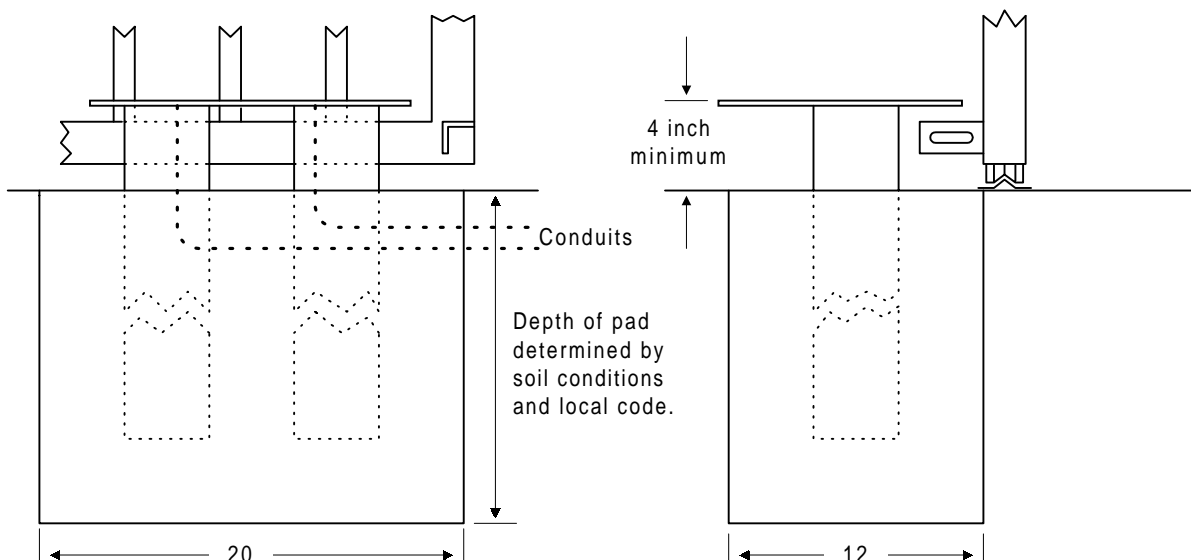

Figure 8
2. After the posts have been welded to the base plate to form the mounting plate assembly, construct a form for the assembly according to the specifications in figure 8.
3. Position the mounting plate assembly into the form. Be sure that the base plate is a minimum of four (4) inches above ground level. Set conduits, reinforcing bars and/or wire mesh if required. The number of conduits is determined by the application requirements. We suggest using a minimum of four (4) conduits. 1-High voltage power lines; 2-Low voltage control lines; 3-Loop lead-in wires (open loop); 4-Loop lead-in wires (reverse loops). **See SECTION 2.** Set additional conduits as required for your application. NOTE: If conduits are not set in the pad, they can be routed to a J box where connections to the operator can be made after it is installed. There are three (3) ½-inch knockouts and one (1) ¾-inch knockout on each side of the operator for this purpose. **IMPORTANT!! Be sure that the mounting plate is level and parallel with the gate.**